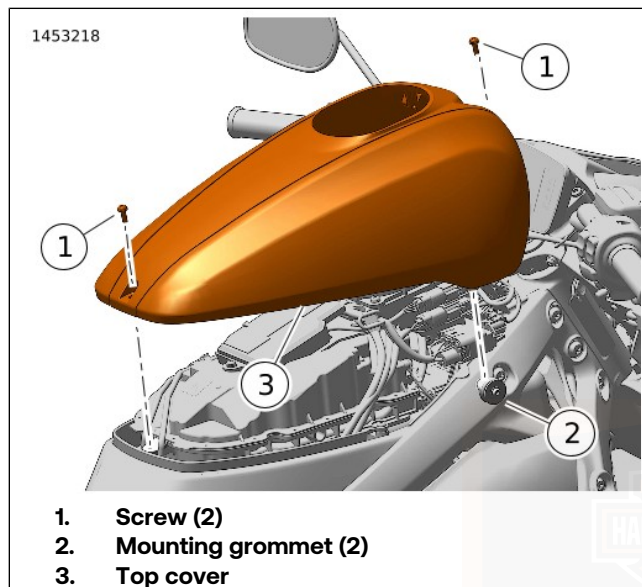

Figure 61. Top Cover
3. See Figure 61. Remove screws (1).
4. Lift top cover (3) straight up to disengage from mounting grommets (2).
1. See Figure 61. Install top cover (3) to mounting grommets (2).
2. Install screws (1). Tighten.